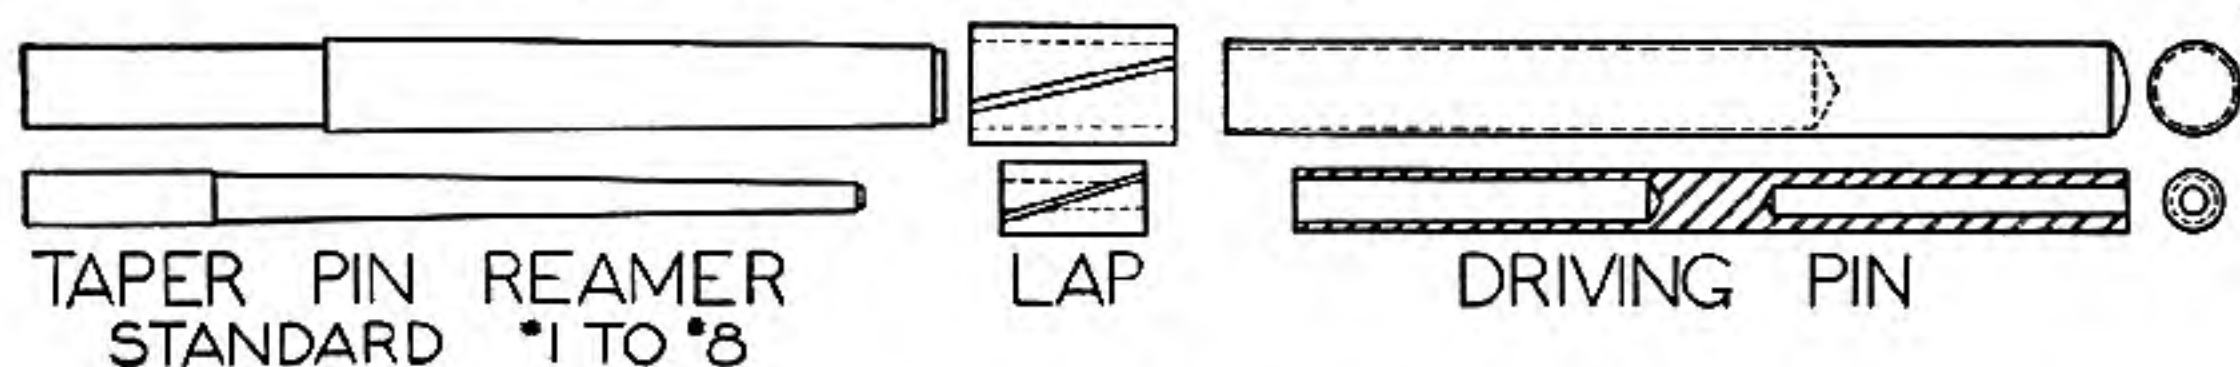

Fig. 42
**Laps and Lapping**—The gunsmith is often called upon for such work as lapping special dies to size: lapping chambers, ring gauges, plug gauges, special test gauges, snap gauges, barrel plugs, etc. Figure 42 shows a set of lap arbors with the same